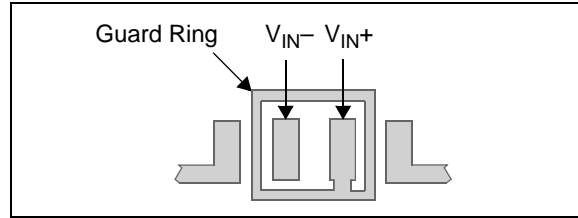

FIGURE 4-4: Example Guard Ring Layout.
The easiest way to reduce surface leakage is to use a guard ring around sensitive pins (or traces). The guard ring is biased at the same voltage as the sensitive pin. Figure 4-4 shows an example of this type of layout..
1. Inverting Amplifiers (Figure 4-4) and Transimpedance Gain Amplifiers (convert current to voltage, such as photo detectors).